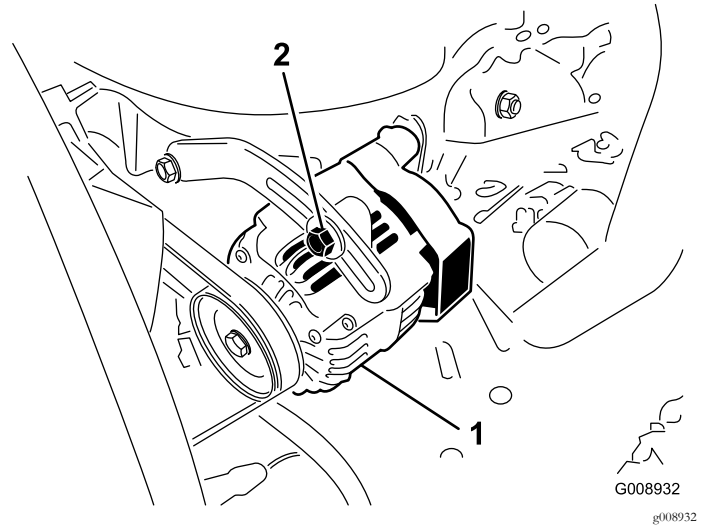

Figure 50
2. If the deflection is not 10 mm (3/8 inch), loosen the alternator mounting bolts (Figure 50).